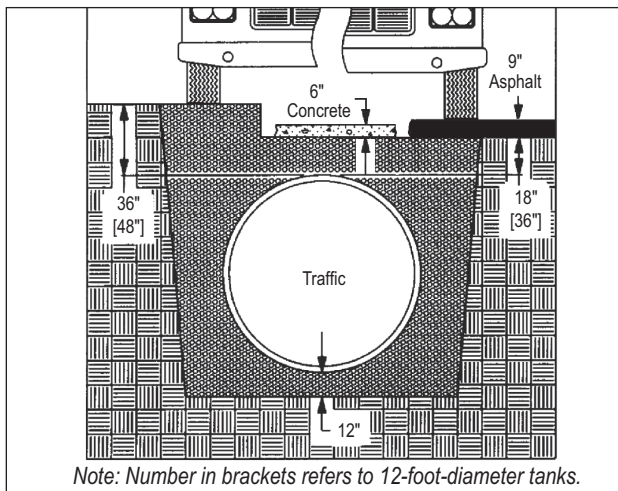
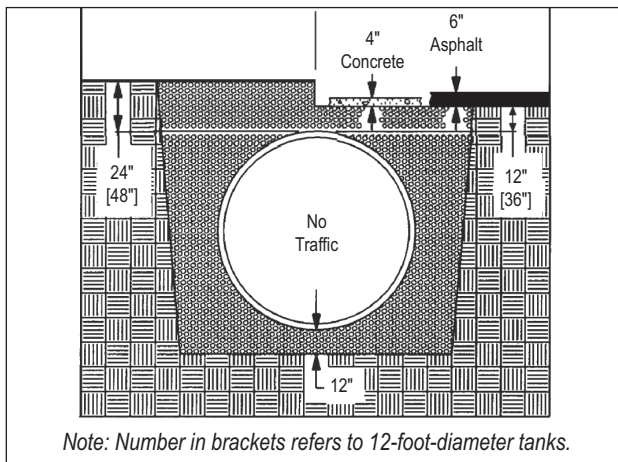

FIGURE 5-1
FIGURE 5-2
5.2.2. For additional requirements and specifications, refer to federal, state and local codes; NFPA 30, 30A and 31; API RP 1615; PEI RP100; and *FIGURE 5-1* and *FIGURE 5-2*.
5.2.3.1. Tanks subjected to traffic loads (H-20 loads) must have a cover depth of at least 36 inches of backfill [48 inches for 12-foot-diameter tanks], or 18 inches of backfill [36 inches for 12-foot-diameter tanks] plus 6 inches of reinforced concrete or 9 inches of asphalt. **(See *FIGURE 5-1*.) In a wet condition, sufficient overburden and/or an appropriate anchoring system must be present to offset buoyancy of the tank.**
5.2.3.2. Tanks not subjected to traffic loads must have a cover depth of at least 24 inches of backfill [48 inches for 12-foot-diameter tanks], or 12 inches of backfill [36 inches for 12-foot-diameter tanks] plus 4 inches of reinforced concrete or 6 inches of asphalt. **(See *FIGURE 5-2*.) In a wet condition, sufficient overburden and/or an appropriate anchoring system must be present to offset buoyancy of the tank.**